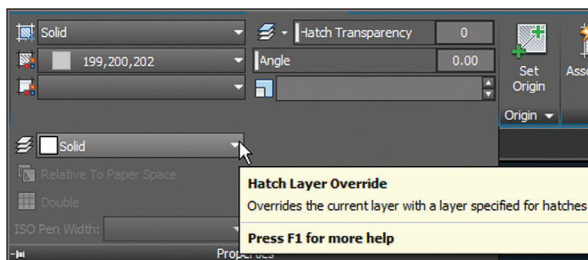

FIGURE 8.5 Using Hatch Layer Override
6. Expand the Properties panel, open the Hatch Layer Override drop-down, and select the Solid layer (see Figure 8.5).